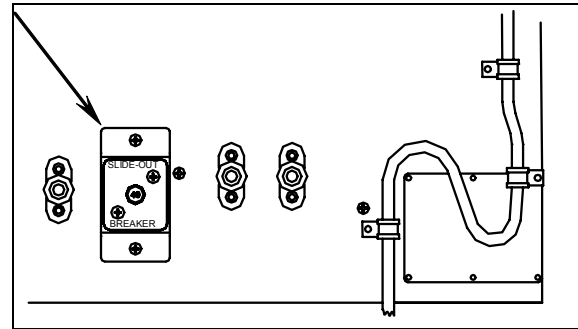
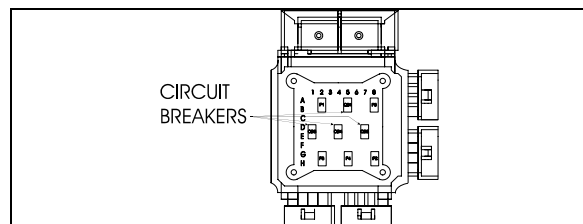

FIGURE 89: MAIN SLIDE-OUT BREAKER IN ENGINE R.H. SIDE ACCESS COMPARTMENT
FIGURE 88: VEC CIRCUIT BREAKERS ON SLIDE-OUT CONTROL PANEL
- Make sure that none of the breakers are tripped (the breakers are located inside the VEC on the slide-out control panel (FIGURE 88) and the main slide-out breaker is located in the engine R.H. side access compartment (FIGURE 89)).